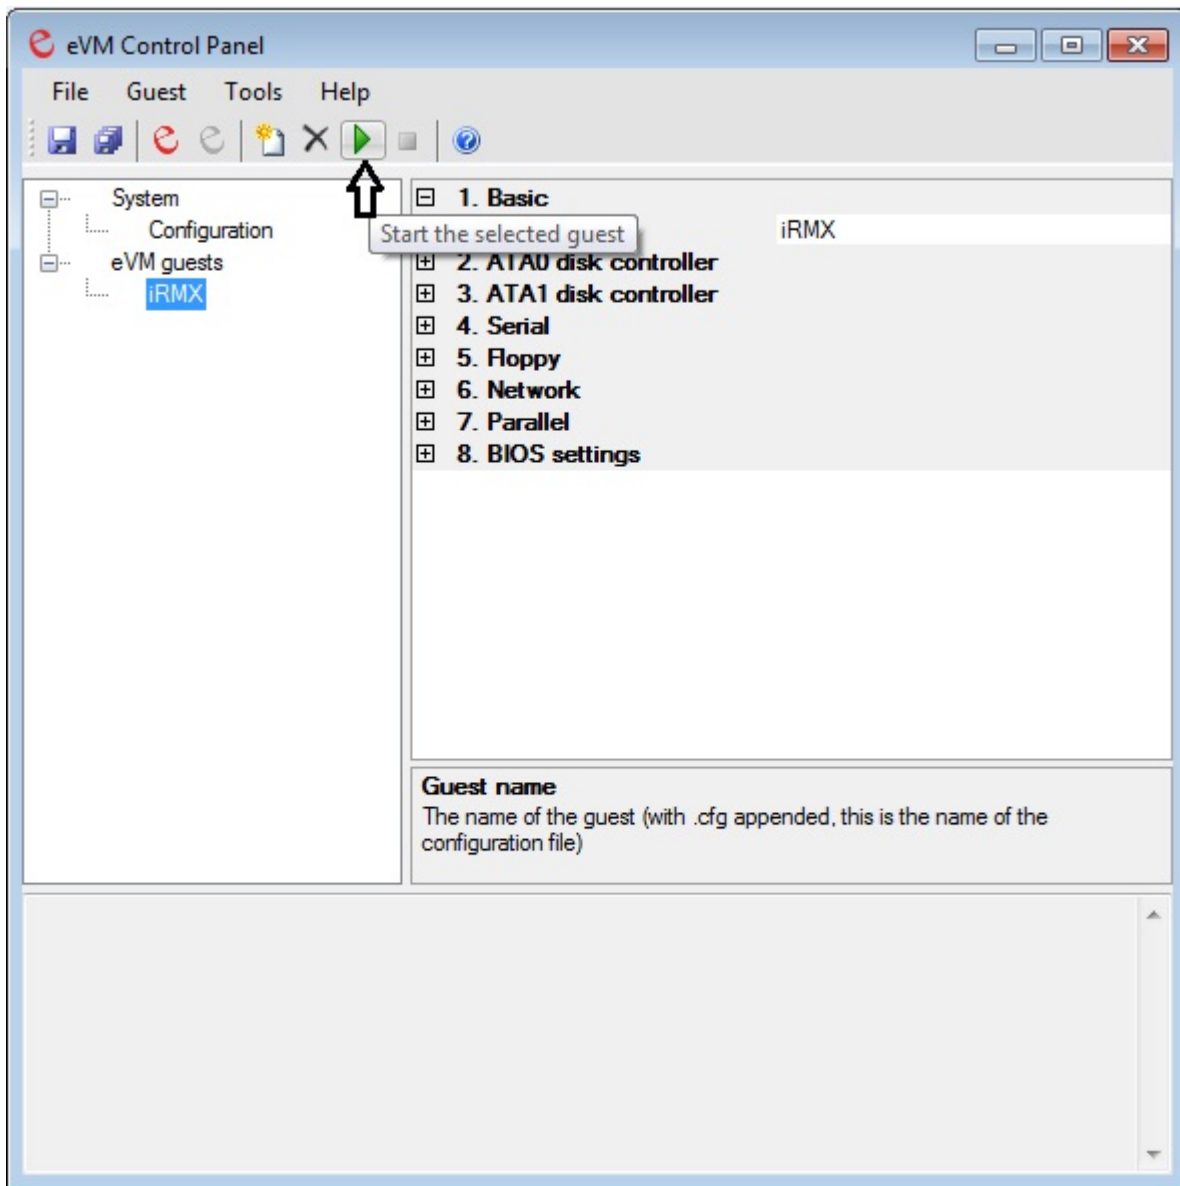

Figure 4.35 - eVM Control Panel, Start the Selected Guest OS
3. From the toolbar, click the **start** button (green triangle) Figure 4.35.